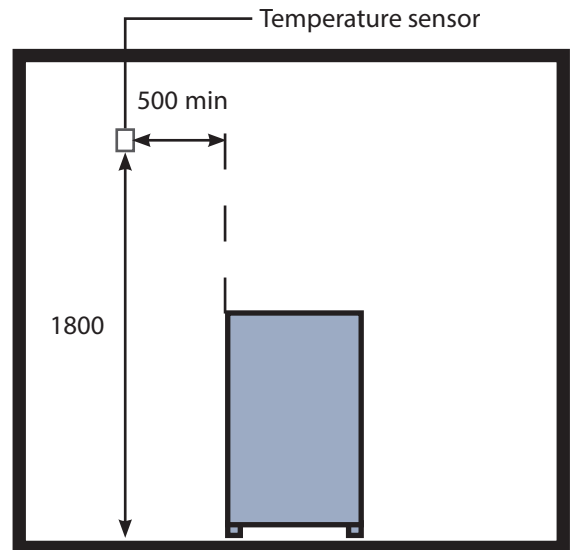

Fig 4b
- Install the temperature sensor as in the Fig. 4b